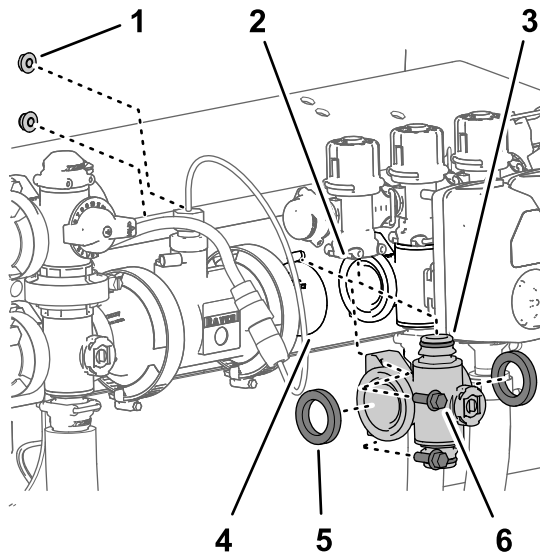
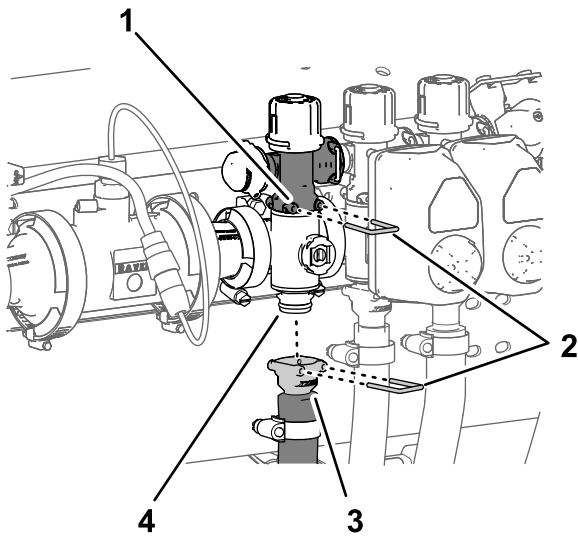

Figure 132
Figure 133
1. Align the 2 gaskets that you removed in Removing the Section-Manifold Valve (page 85) to the flanges of the section-valve manifold (Figure 132).
2. Align the flange of the section-valve manifold between the flanges of the other section-valve (s) and/or coupling adapter (Figure 132).
3. Assemble the quick-connect fitting of the section-valve manifold to the quick-disconnect socket of the section-bypass valve with a quick-connect pin (Figure 132 and Figure 133).
5. For left or right section-valve manifolds, assemble the section-valve manifold to the valve support (Figure 132) with the 2 flange-head bolts (1/4 x 3/4 inch) and 2 flange locknuts (1/4 inch) that you removed in Removing the Section-Manifold Valve \(page 85\).
8. Assemble the quick-connect coupler of the section hose onto the quick-connect fitting of the section-valve manifold with the quick-connect pin (Figure 133).